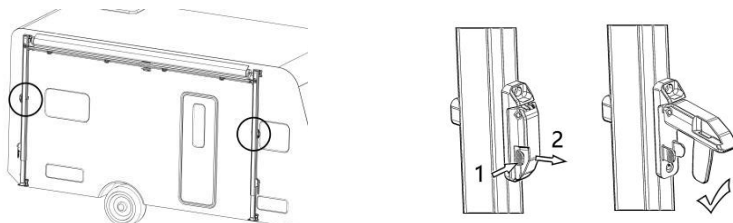

Figure D1
1. Release the safety locks in the middle of both support rods (press and turn), and loosen the tension rod screws. (Figure D1)